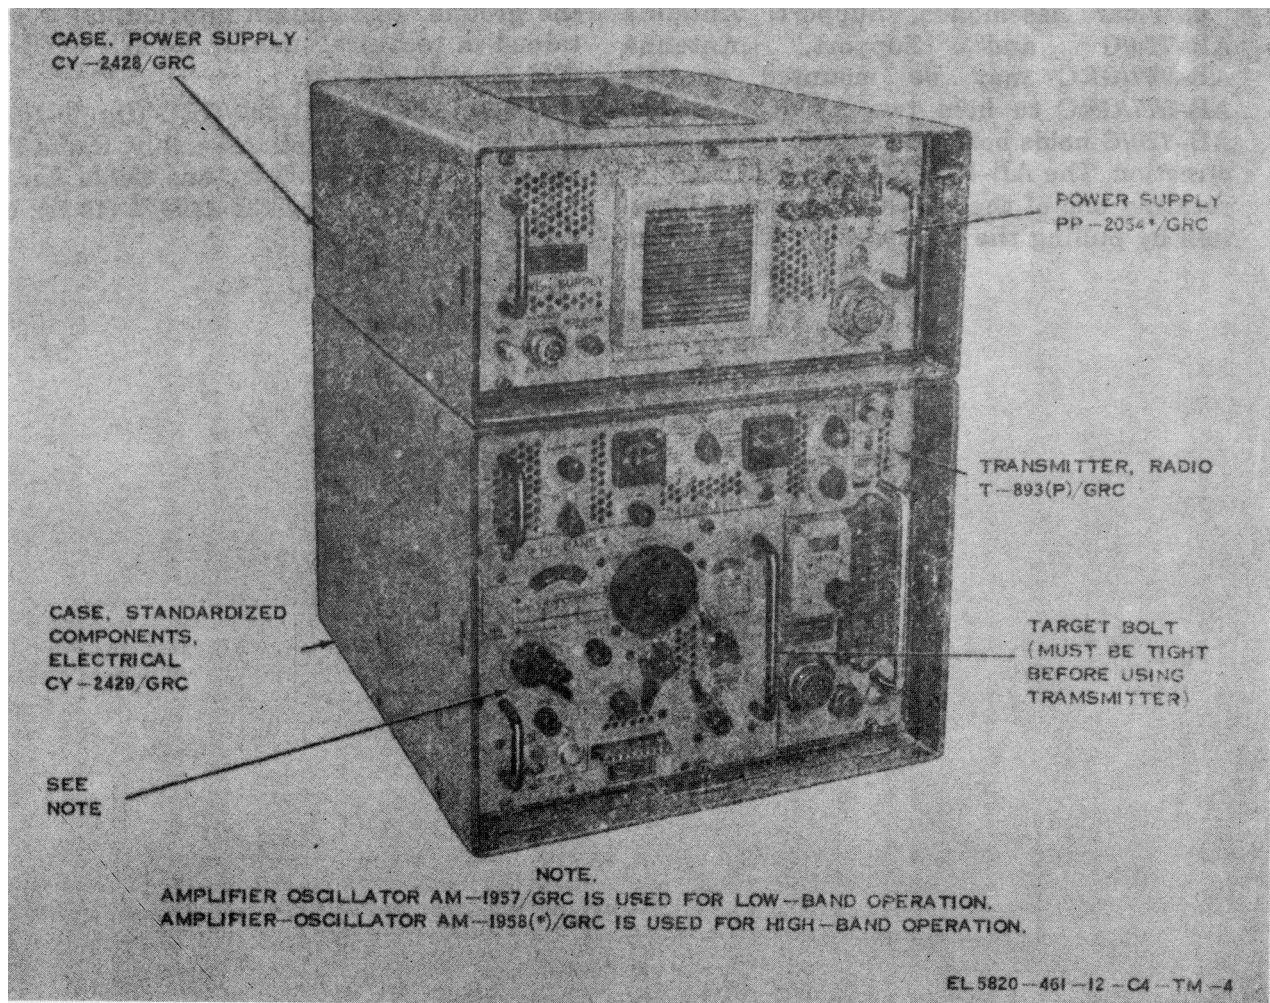

Figure 1-4. Transmitting equipment, major components.
a. The transmitter portion of the radio set is illustrated in figure 1-4. Nylon slides on the inside of each equipment case permit the components to slide easily in and out of the cases. Transmitter, Radio T-893(P)/GRC contains a square opening in the lower left side for the installation of Amplifier-Oscillator AM-1957/GRC or Amplifier-Oscillator AM-1958(*)/GRC.